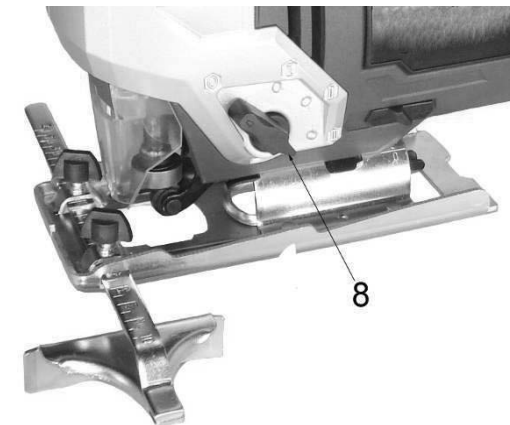

Fig. 7
To adjust the cutting action, move the orbital switch knob (9) between the four cutting positions: **0**, **I**, **II**, and **III**. Position **0** is the straight cutting. Positions **I**, **II** and **III** are orbital cutting. The aggressiveness of the cut increases as the knob is moved from one to three, with three being the most aggressive cut. (See **Fig. 7**)